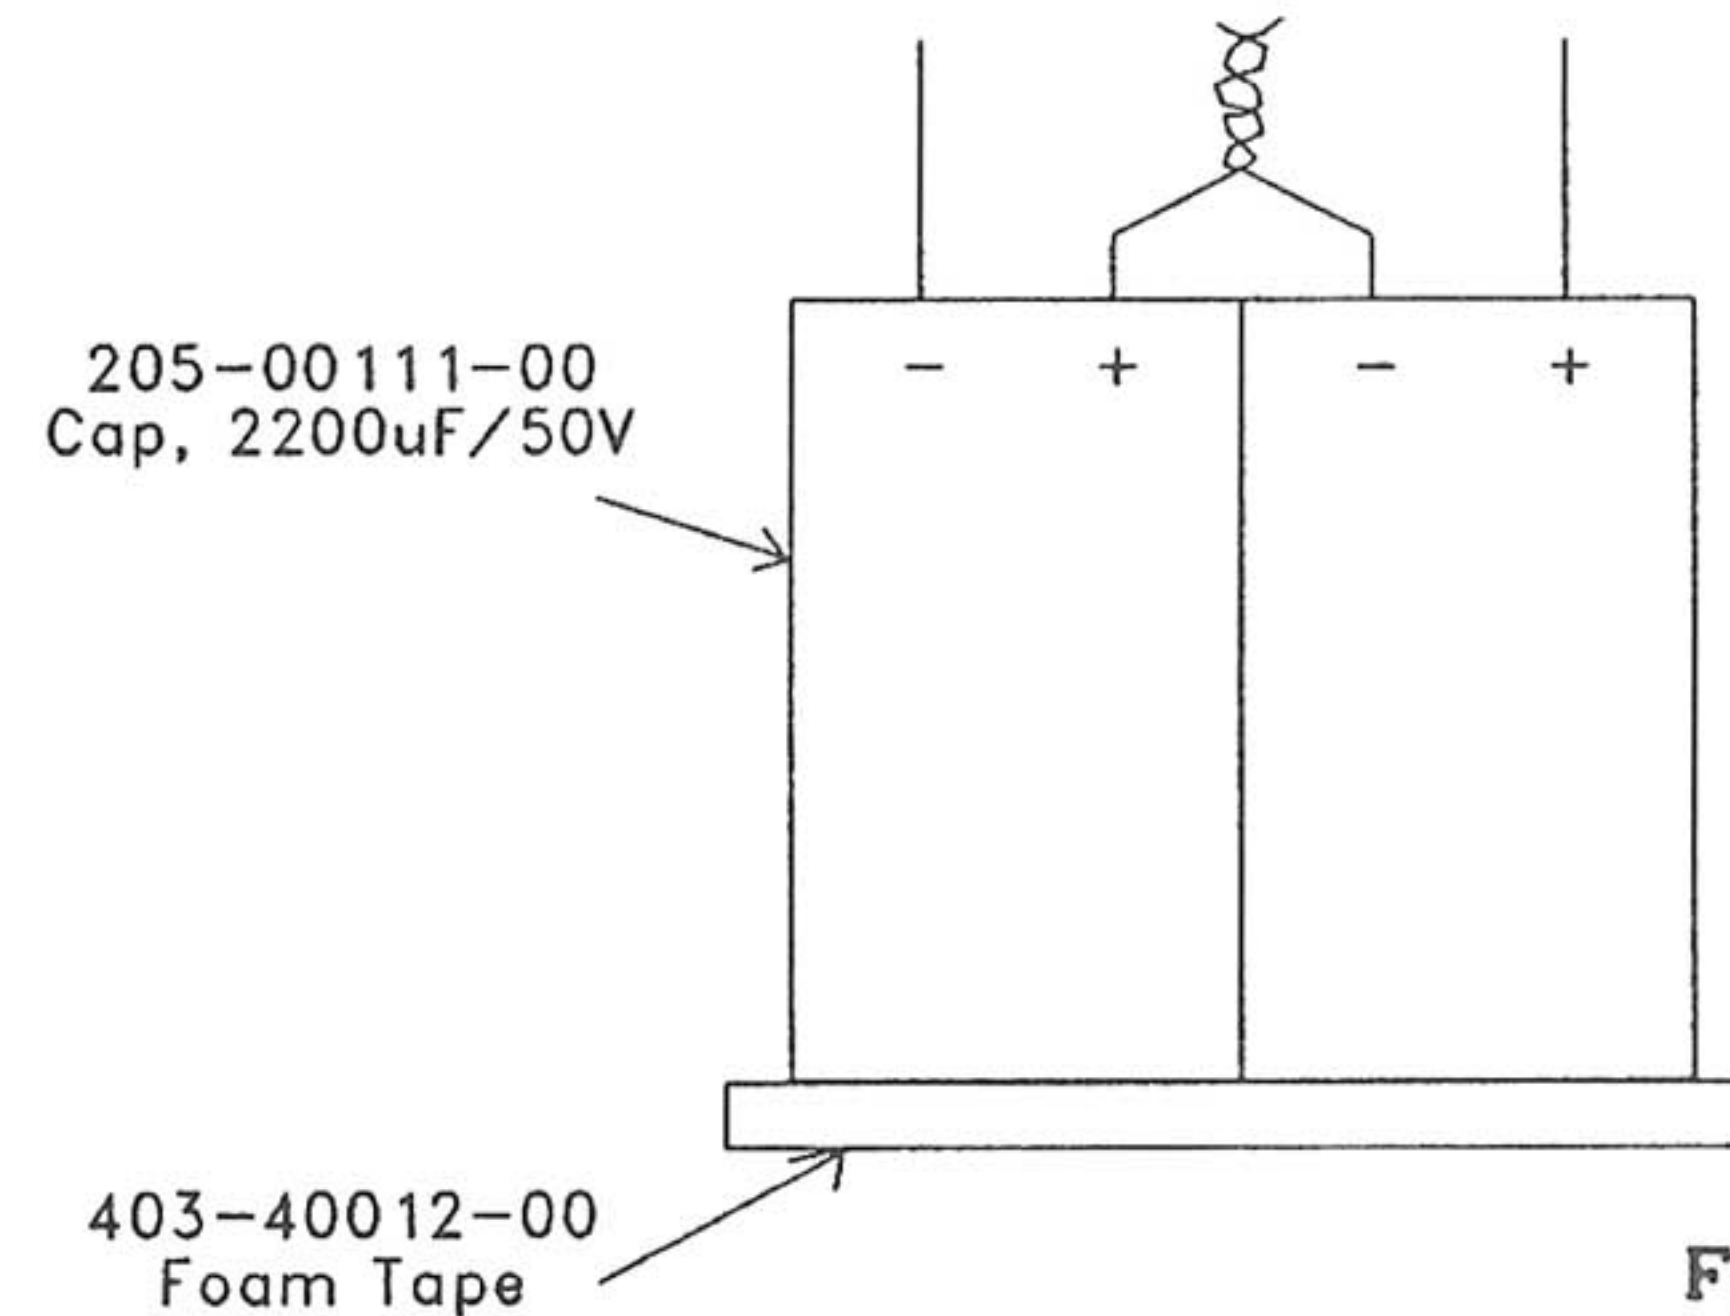

Figure 1
- 1) Place caps on foam tape and twist + and - leads together as shown in Figure 1.